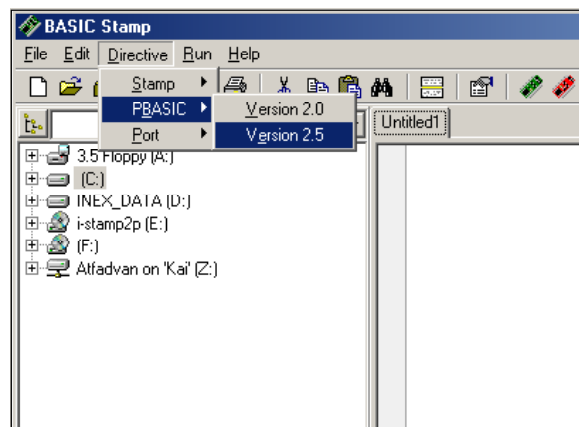

Figure A1-6 Shows "How to select PBASIC2.5 directive".
1.5.3 At Directive menu, select version of PBASIC language by PBASIC à Version2.5 following figure A1-6. Message **{\$PBASIC 2.5}** appear at third line. Press Enter